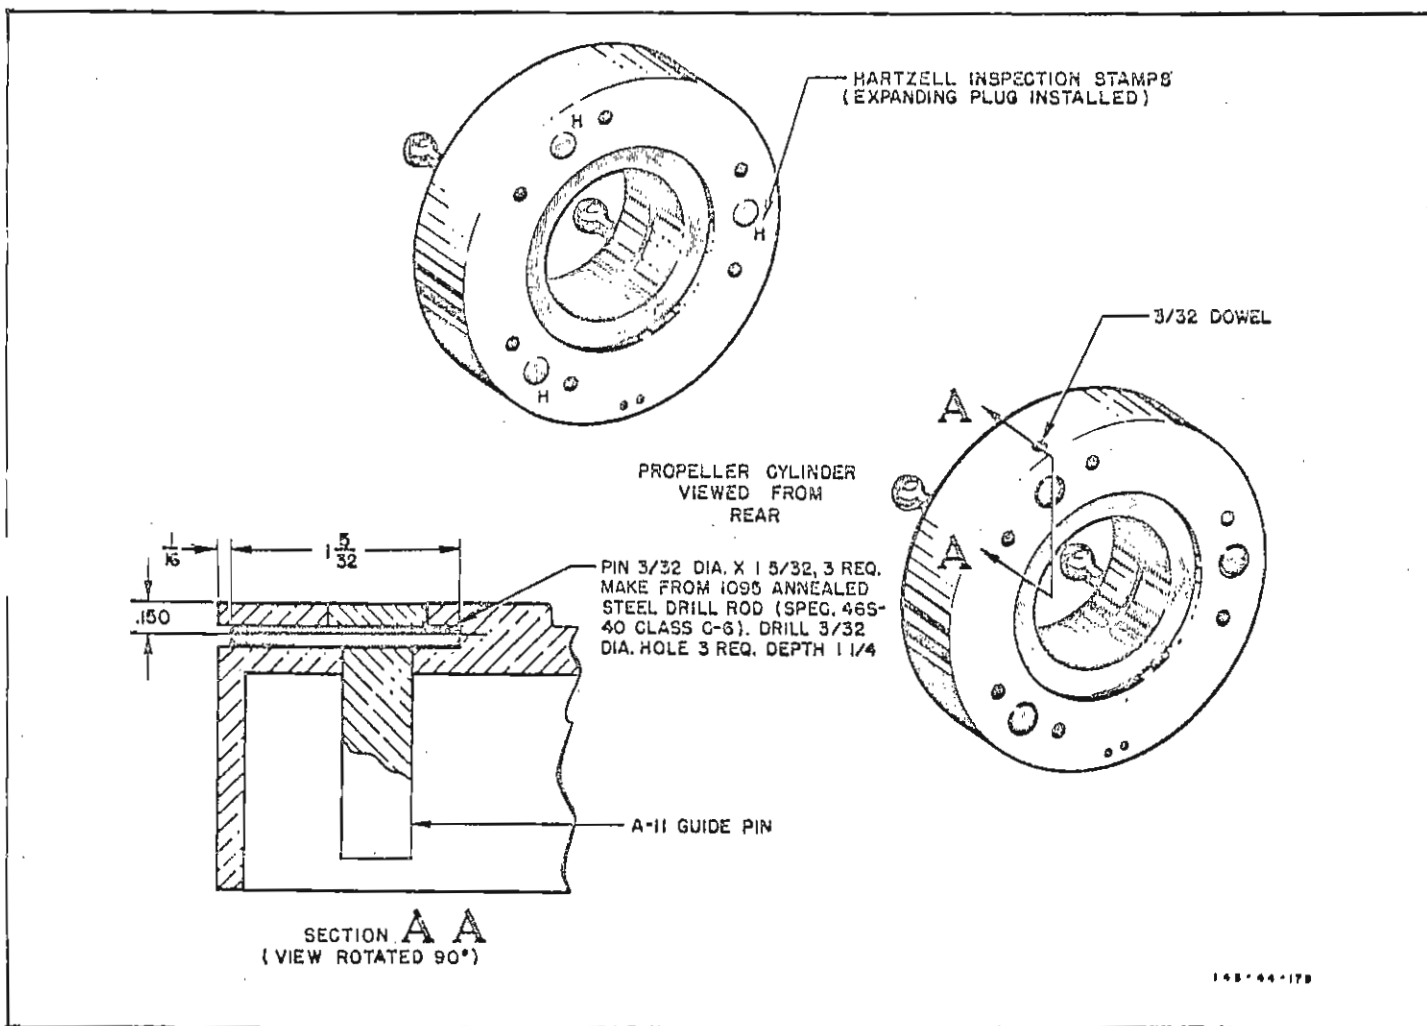

Figure 1. Propeller Piston Guide Pin Staking
INSPECTION INSTRUCTIONS: (See figure 1.)
3. Lay out and drill the cylinder as shown in Figure 1.